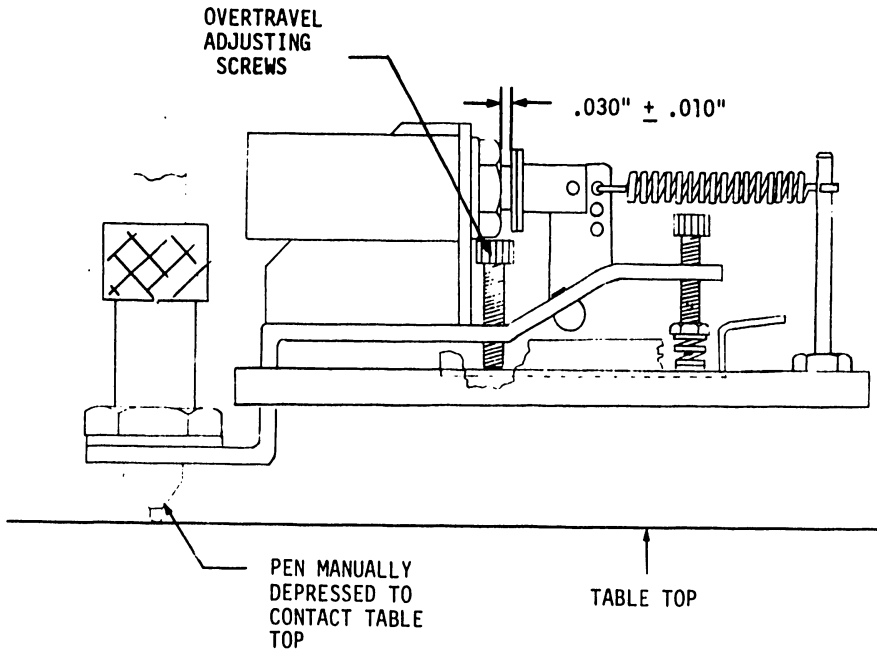

FIGURE 12
- 2) With the pen manually depressed to just contact the table top there should be a .030" \pm .010" gap. See Figure 12.